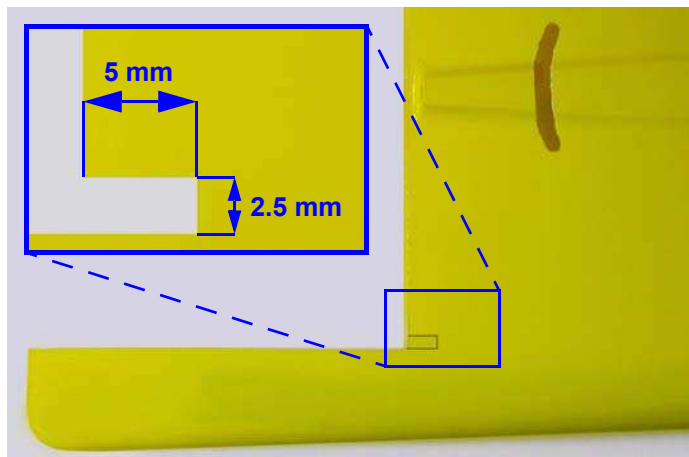

Fig.8: Part to remove (and detail).
- Using a pencil, mark (on both sides) a **5 x 2.5 mm** rectangle in the position shown in figure 8;